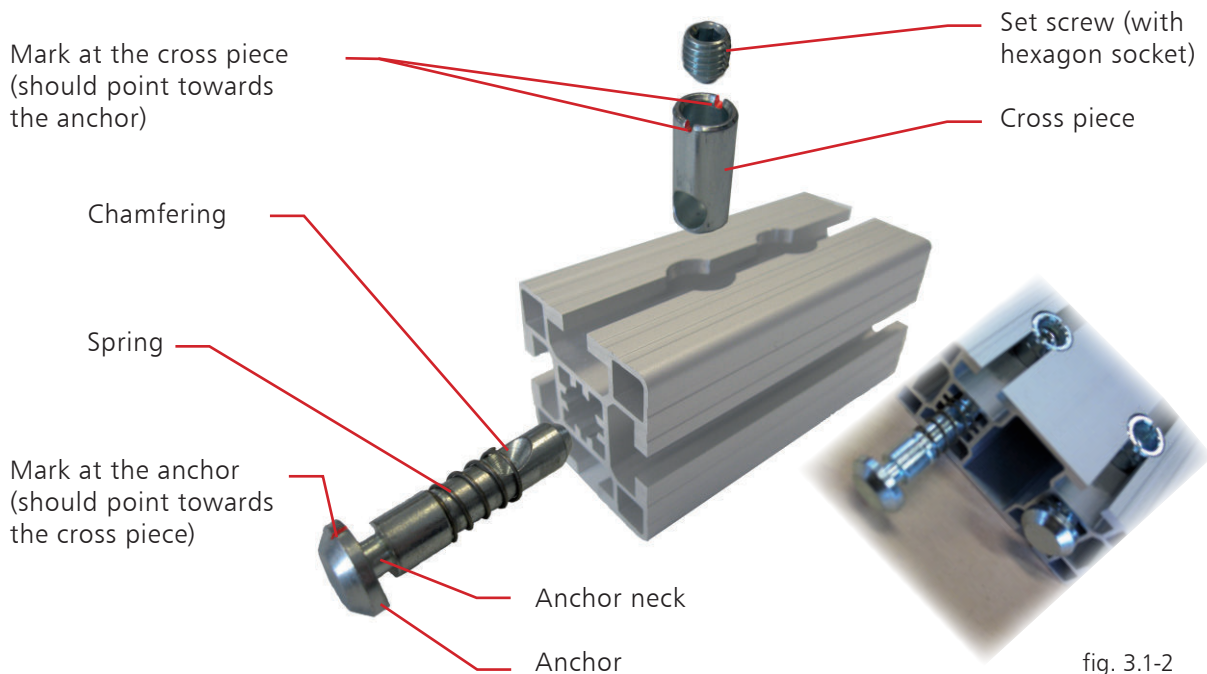
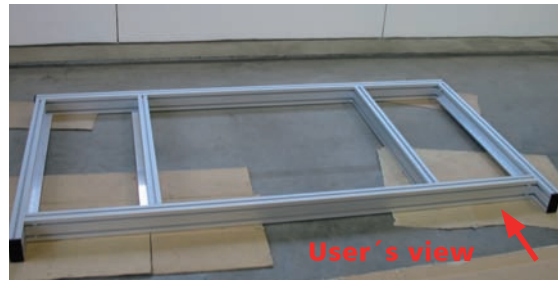
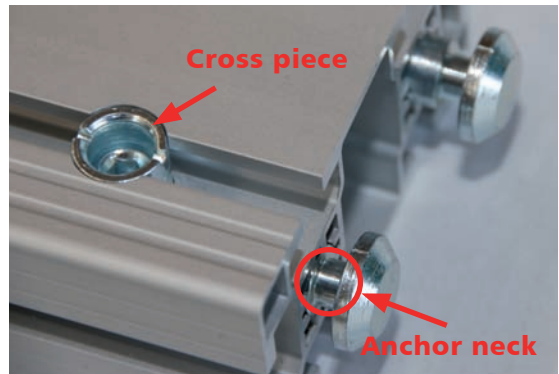
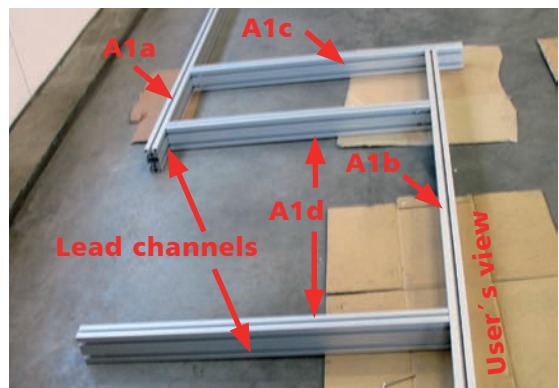

fig. 3.1-2
fig. 3.1-3
fig. 3.1-4
fig. 3.1-5
**Step 2** Before you start putting together the frame base **A1** (fig. 3.1-3), please attach all the profile connectors to the provided positions at the frame base profiles first. Four (4) profile connectors should be kept for the side supports of the aluminium frame. In order to fasten the profile connectors, the chamfering should point towards the cross piece which is indicated by the mark at the anchor (fig. 3.1-2). The set screw will be slightly screwed into the cross piece with the corresponding Allen key. The anchor will be drawn into the profile automatically. It is important that you can still see the neck of the anchor (fig. 3.1-4) to be able to insert it into the lead channels at a later point (fig. 3.1-5). It might be the case that you need to push the anchor slightly against the cross piece while screwing it in.
**Step 3** Shove the two (2) frame base profiles **A1d** into the lead channels of the frame profiles **A1a** and **A1b** (fig. 3.1-5). Please ensure that the cross pieces of the connectors in the frame base profiles **A1d** point inwards and the cross pieces of the connectors in the frame base profile **A1b** point outwards.
In order to fasten the profile connectors, the chamfering should point towards the cross piece which is indicated by the mark at the anchor (fig. 3.1-2). The set screw will be slightly screwed into the cross piece with the corresponding Allen key. The anchor will be drawn into the profile automatically.